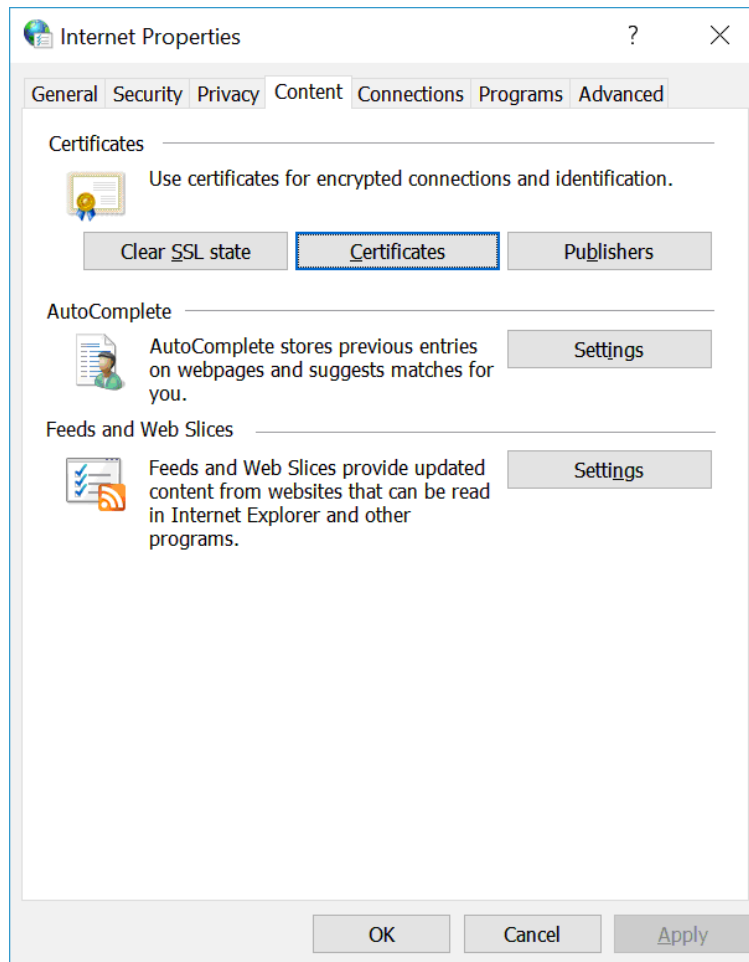

Figure 337: Internet Properties, Content Tab
1. In Windows, click on the Start Menu, type Internet Options, then press the Enter key to open the Internet Properties screen, as shown in Figure 337.